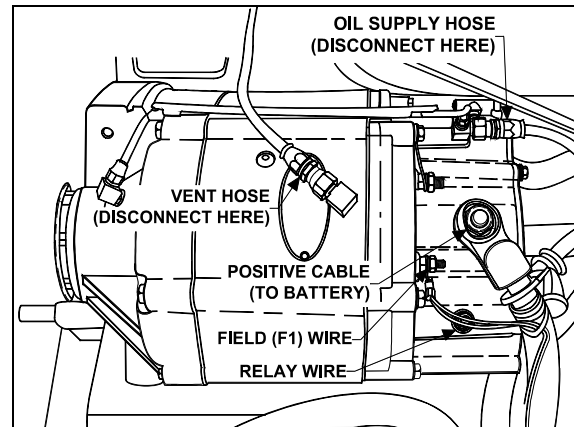
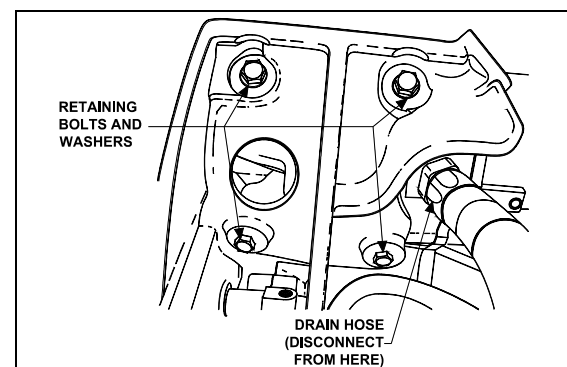

FIGURE 24: ALTERNATOR (HOSES AND WIRES) 06073
FIGURE 25: ALTERNATOR RETAINING BOLTS AND WASHERS
4. Scratch off protective sealer from electrical connections (relay, field and positive terminals). Refer to figure 24.
5. Disconnect wire #25 from the relay terminal, wire #107 from the field "F1" terminal and disconnect battery cable from the positive "+" terminal on the diode end cover. Tag wires removed to ease identification at time of installation. Refer to figure 24.
6. Disconnect oil supply line and vent hose from top of alternator (Fig. 24) and tape lines to prevent entry of foreign matter. Disconnect oil drain hose from bottom of alternator (Fig. 25) and tape line to prevent entry of foreign matter.
7. Remove the four bolts and lock washer retaining alternator (refer to fig. 25).